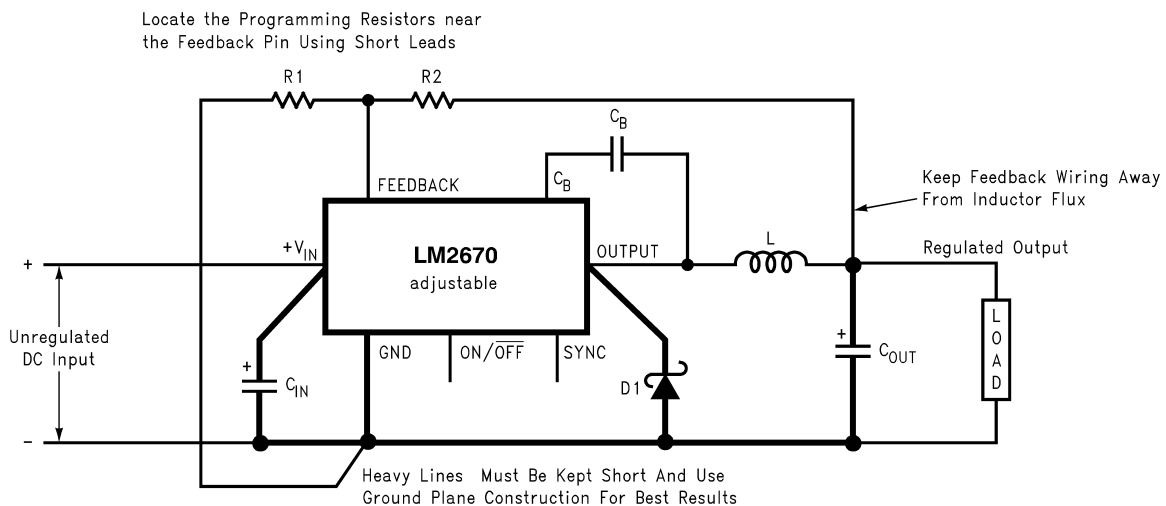

Figure 20. Basic Circuit for Adjustable Output Voltage Applications
Step 2: Select an LM2670S-ADJ. To set the output voltage to 14.9V two resistors need to be chosen (R1 and R2 in Figure 20). For the adjustable device the output voltage is set by the following relationship: